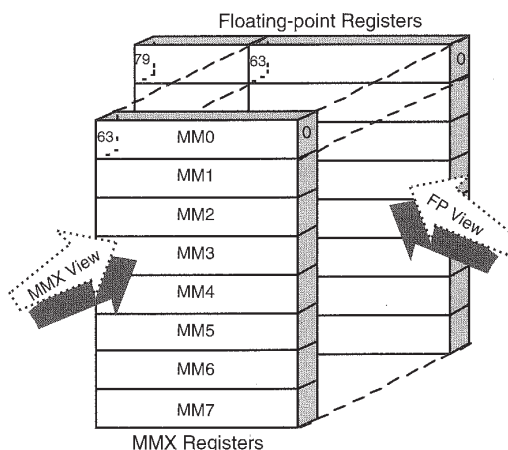

FIGURE 20-4 Aliasing of MMX registers on top of the floating-point registers.
To maintain operating system compatibility, MMX technology maps the MMX registers on top of the IA floating-point (FP) registers. Figure 20-4 shows a diagram of the MMX registers mapped one-to-one to the mantissa part of the floating-point registers. As a result, when you read or write to an MMX register, you read and write to one of the floating-point registers and vice versa. The only difference is how the data is interpreted in the register—after all, it's only bits. MMX instructions interpret the data as packed bytes, words, or double words; floating-point instructions interpret the same data as the mantissa part of a floating-point number.